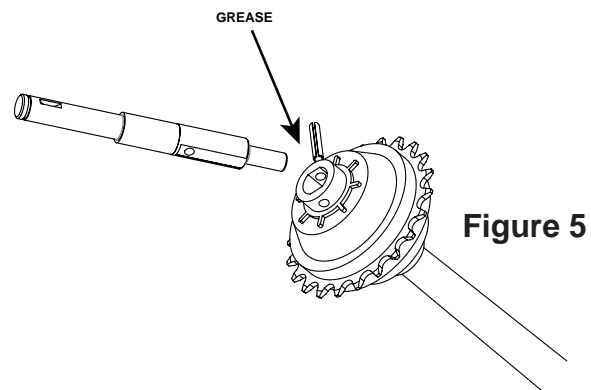

Figure 5
2. Install the shaft with the hollow end, then put the grease in the differential cavity and install the second shaft. (Figure 5)